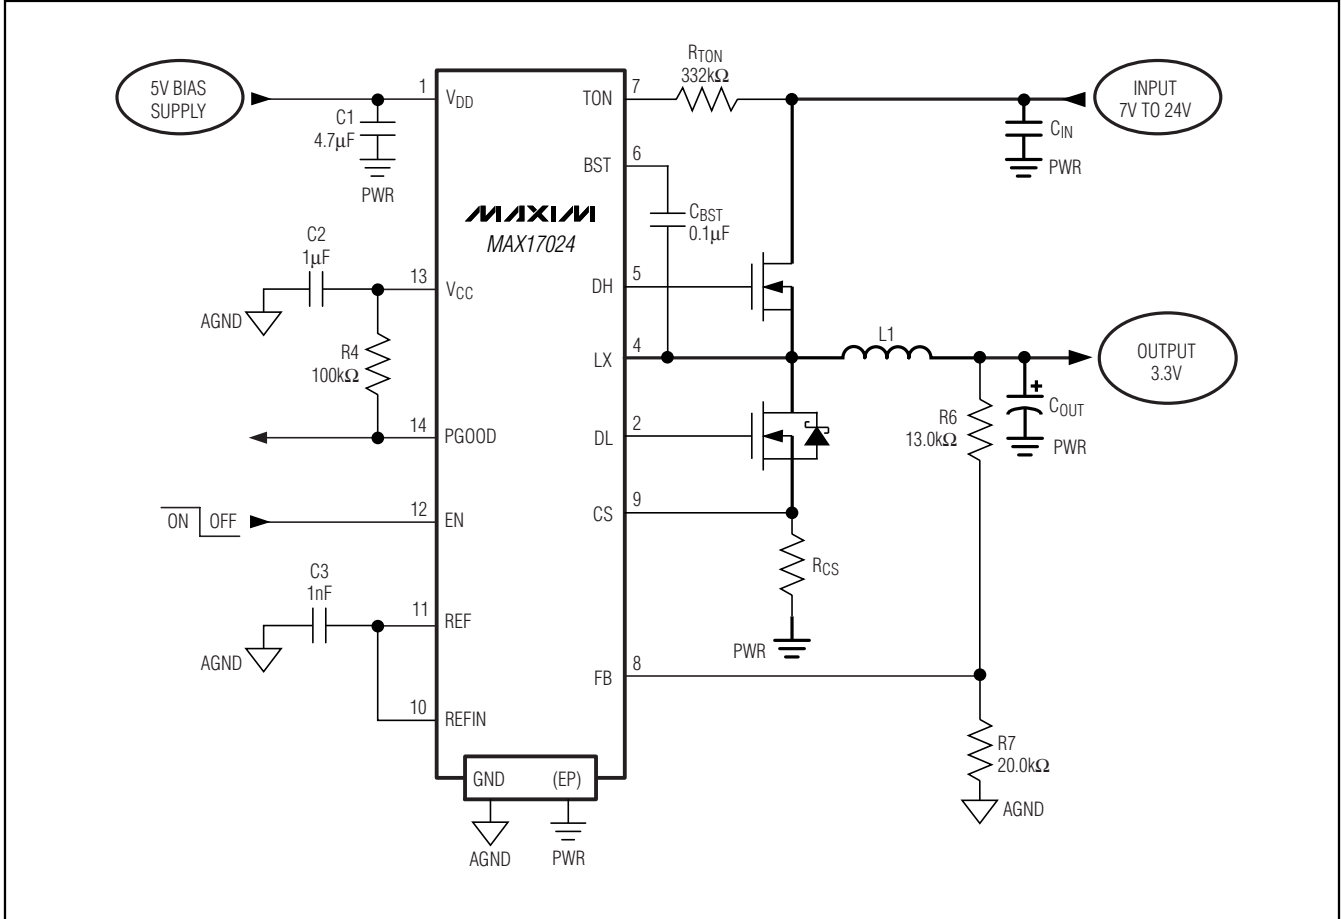

Figure 3. High Output-Voltage Application Using a Feedback Divider
Although REFIN is limited to a 0 to 2V range, the output-voltage range is unlimited since the MAX17024 utilizes a high-impedance feedback input (FB). By adding a resistive voltage-divider from the output to FB to analog ground (Figure 3), the MAX17024 supports output voltages above 2V. However, the controller also uses FB to determine the on-time, so the voltage-divider influences the actual switching frequency, as detailed in the *On-Time One-Shot* section.